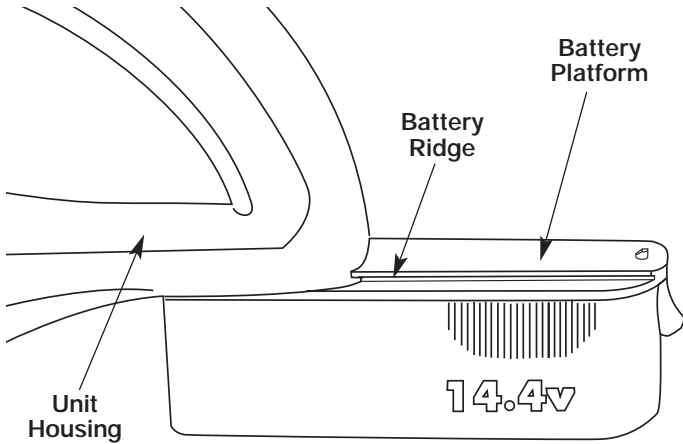

Fig. 5
- Align the ridges on both sides of the battery's center platform with the channel on the rear of the unit housing (Fig. 5).